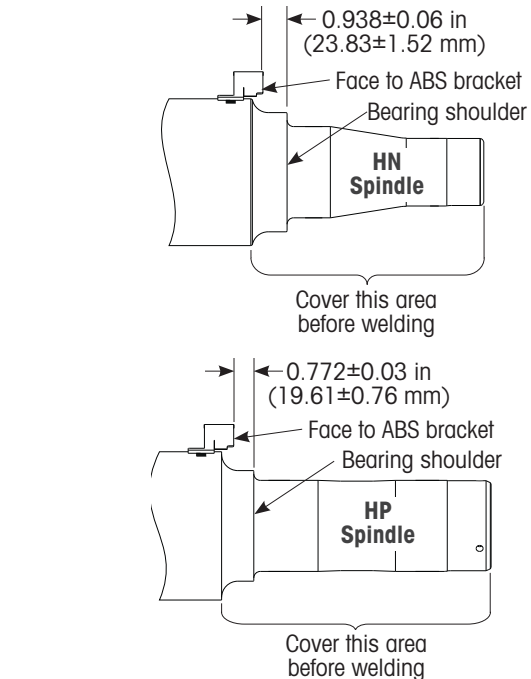

Figure 1: Positioning ABS bracket along length of the axle
3. To position the ABS bracket along the length of the axle, **measure** back (inboard) from the bearing shoulder to the face of the ABS bracket the distance indicated in Figure 1.
IMPORTANT: It is necessary to cover the entire spindle area (as shown in Figure 1) to avoid weld splatter damage.